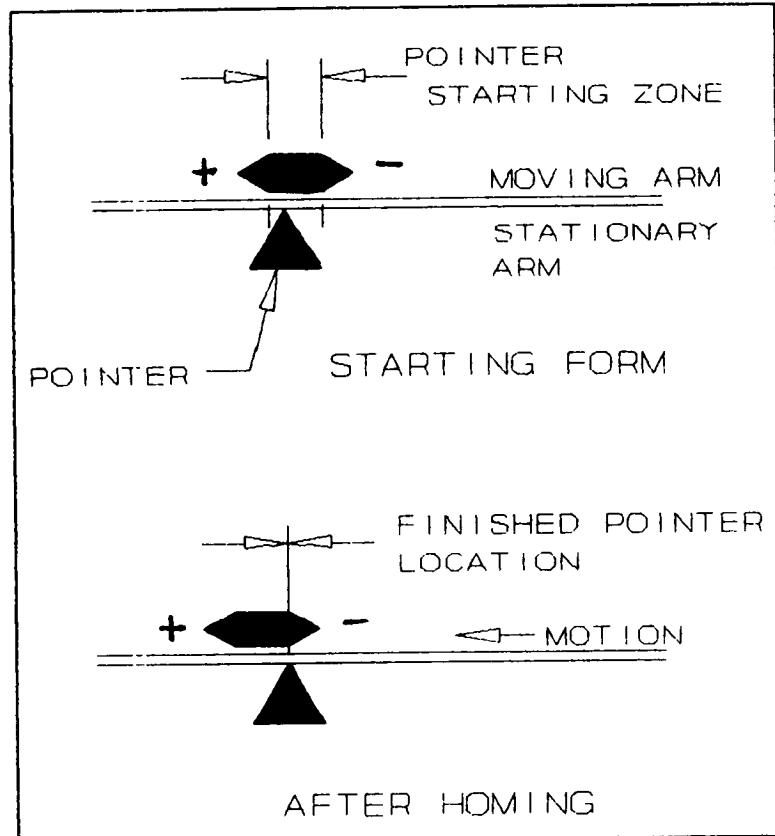

FIGURE 5-1 Homing Marks
- 3) Starting with Joint #1, move all five joints to the homing mark positions. Position each joint such that the homing marks are as shown in Figure 5-1 (the arrow point is within the homing range).
- 6) The arm will move joint by joint into its reference position and display on your screen the status as each joint homes successfully. If an error occurs in any of the joints return to step 1) and repeat the complete procedure. If an error occurs in three (3) consecutive attempts contact your local distributor or CRS Plus.